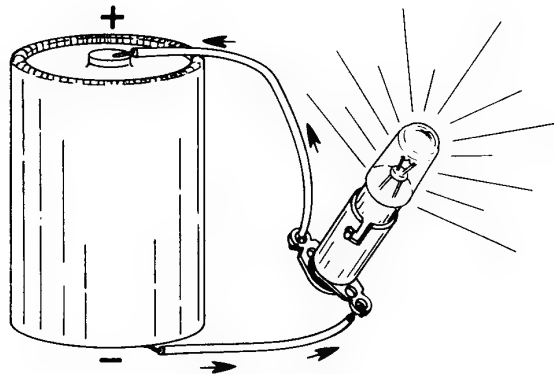
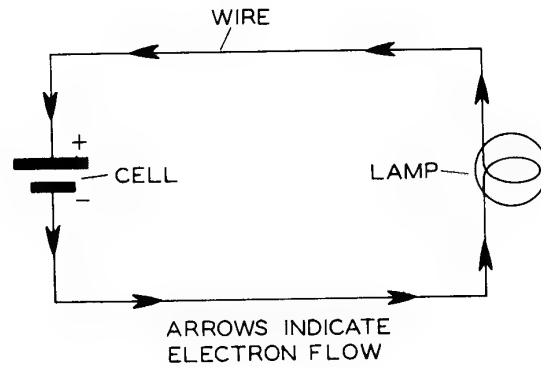

Figure 1-12
Figure 1-13
The term "volt" was defined as a measurement of electrical pressure, just as the term "mile" was defined as a measure of distance. In a new flashlight cell when the chemical and electrodes are new, the electrical pressure between the negative and positive terminals will be high as 1.55 volts. As the cell ages, it is not capable of creating the excess and deficiency of electrons on the electrodes as fast and therefore, the pressure will decrease and approach zero. When applying a load (any device that uses up electrical energy, in this case a lamp) between the two terminals of the flashlight cell, Figure 1-12, the electrical pressure between the terminals forces electrons to flow through the lamp, with the result that light is emitted from the lamp.
In Figure 1-12 the arrows show the excess of electrons coming from the negative terminal flowing through the wire, the light bulb, the wire again and entering the positive terminal of the flashlight cell.
Figure 1-12 has been drawn in pictorial form but showing electrical circuits in this manner is cumbersome. Symbols have been devised for each electrical item. Figure 1-13 is a schematic diagram of Figure 1-12 with symbols replacing the cell, lamp and wire.
16. Draw a schematic diagram of a series circuit using one dry cell, light bulb and connecting wires. (Check drawing with Figure 1-13, Page 8.)